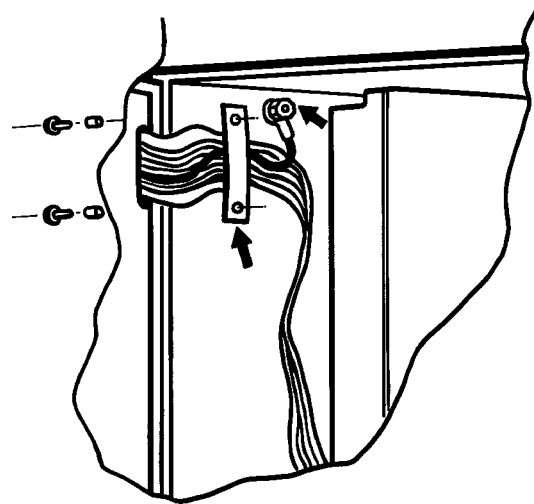

Figure 4.7.3b
4. Release the ribbon cable connectors from the I/O boards (figure 4.7.3b). Make a note of the I/O board addresses (relative to their physical locations) before removing the I/O boards, and placing them in a suitable static-safe environment.
10. Re-fit the earthing link and the ribbon cable retainer (figure 4.7.3b).